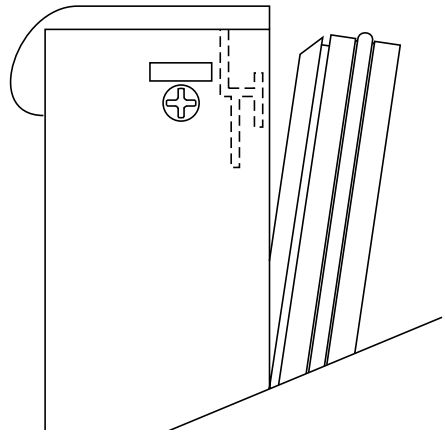

Figure 29
3. Pull door gasket out of groove (top edge of door only). Start in the middle and pull outward, moving toward the edge (see Figure 29). This may take some force.